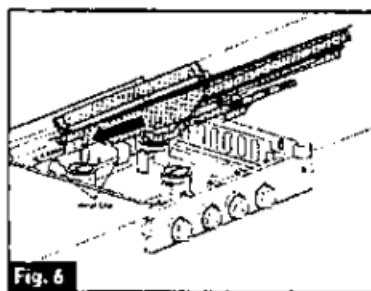

Fig. 6
7. Check the pipe fittings for leaks using a soapy solution. Never use a flame. Push to insert the top glass cover assembly into the metal dip and place it into the hob, then pull front a little to lock into place. (Fig. 6 & Fig. 7)